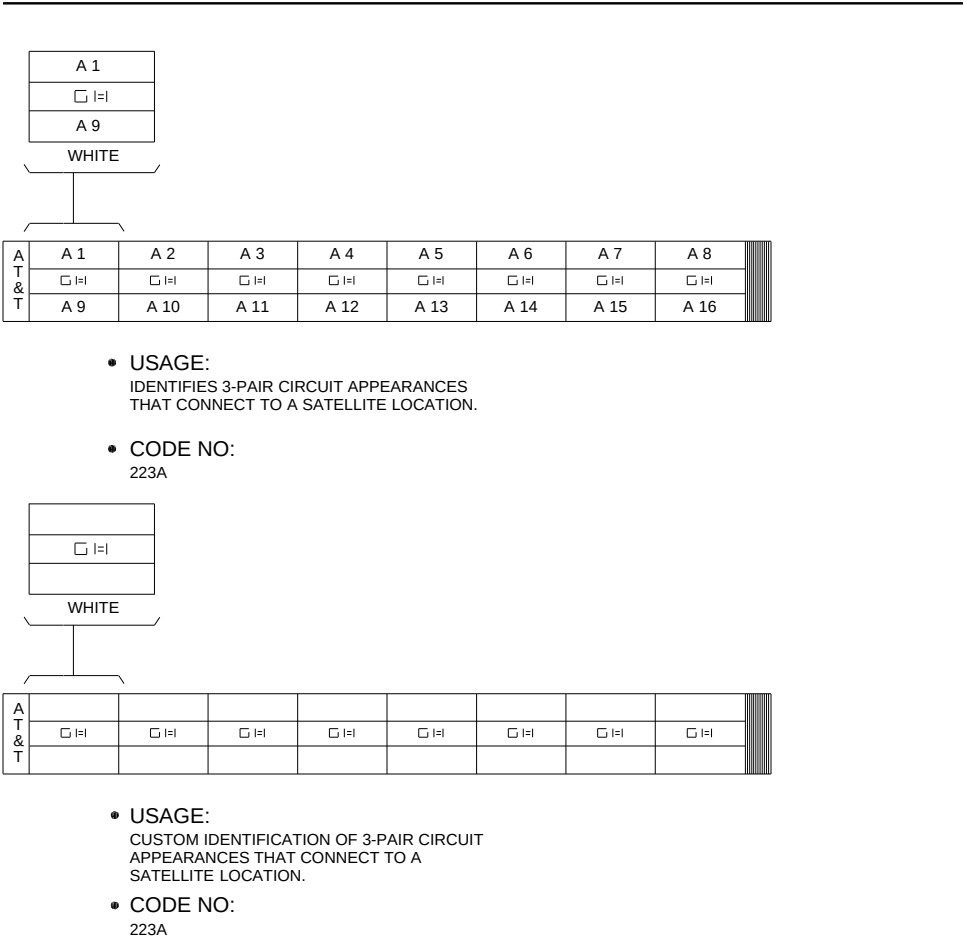

Figure 9-29. 3-Pair White Station Wiring (Equipment Room) Labels
The white labels shown in Figure 9-29 identify 3-pair station appearances at the cross-connect field that connect to a satellite location. The top labels are grouped and numbered in sequence, **A 1** to **A 160** through **F 1** to **F 160** to correspond to the satellite locations. The bottom labels must be filled in manually. These labels are installed starting with the first terminal block in the white field.
- (60) White labels that identify 3-pair circuits from the equipment room to the satellite closet (Figure 9-29). Each label identifies 16 three-pair station circuits. There are labels for satellite closets numbered A through F, and each satellite closet has station circuits numbered 1 through 160.
- (20) Unnumbered white labels (Figure 9-29) that identify 3-pair station circuits from the satellite closet. Each label identifies twelve 3-pair station circuits.